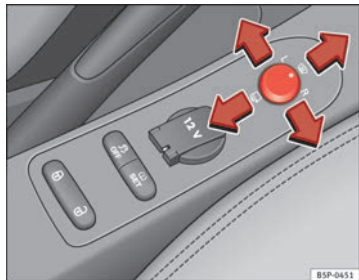

Fig. 91 Controls of exterior mirrors
1. Turn knob ⇒ fig. 91 to position **L (left exterior mirror)**.
- Turn the control ⇒ fig. 91 to position to fold in the exterior mirrors. You should always fold in the exterior mirrors if you are driving through an automatic car wash. This will help prevent damage.